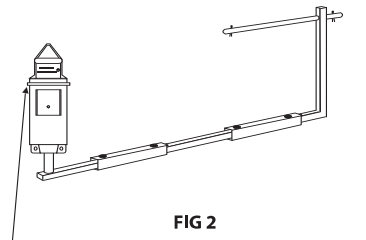

FIG 2
5. Place WHISTLER on stud of tool with pointed wire loop at right angles to length of tool as shown in **Figure 2**. Make sure unit is snugly on tool, spread slotted stud if necessary.